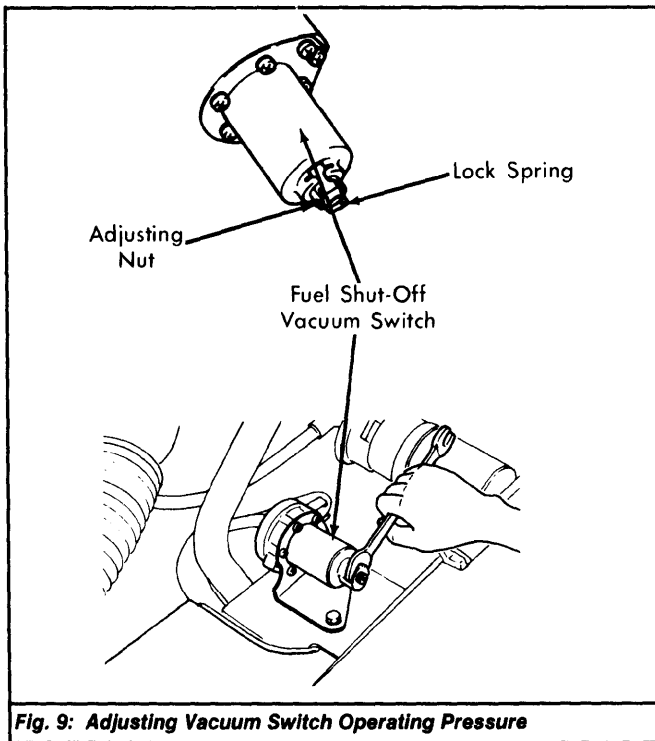

Fig. 9: Adjusting Vacuum Switch Operating Pressure
4) Start and run engine. Increase engine speed to 2500-3000 RPM, quickly close throttle, and note vacuum gauge and voltmeter readings. Vacuum should rise quickly to at least 24 in. Hg as throttle is closed. Voltage should quickly drop from 12 to zero (0) volts as throttle is closed.
5) Check vacuum switch operating pressure with engine at idle. Operating pressure should be 23-24 in. Hg. If not, remove rubber cap from vacuum switch. See Fig. 9. Turn adjusting nut clockwise to increase operating pressure and counterclockwise to decrease pressure.